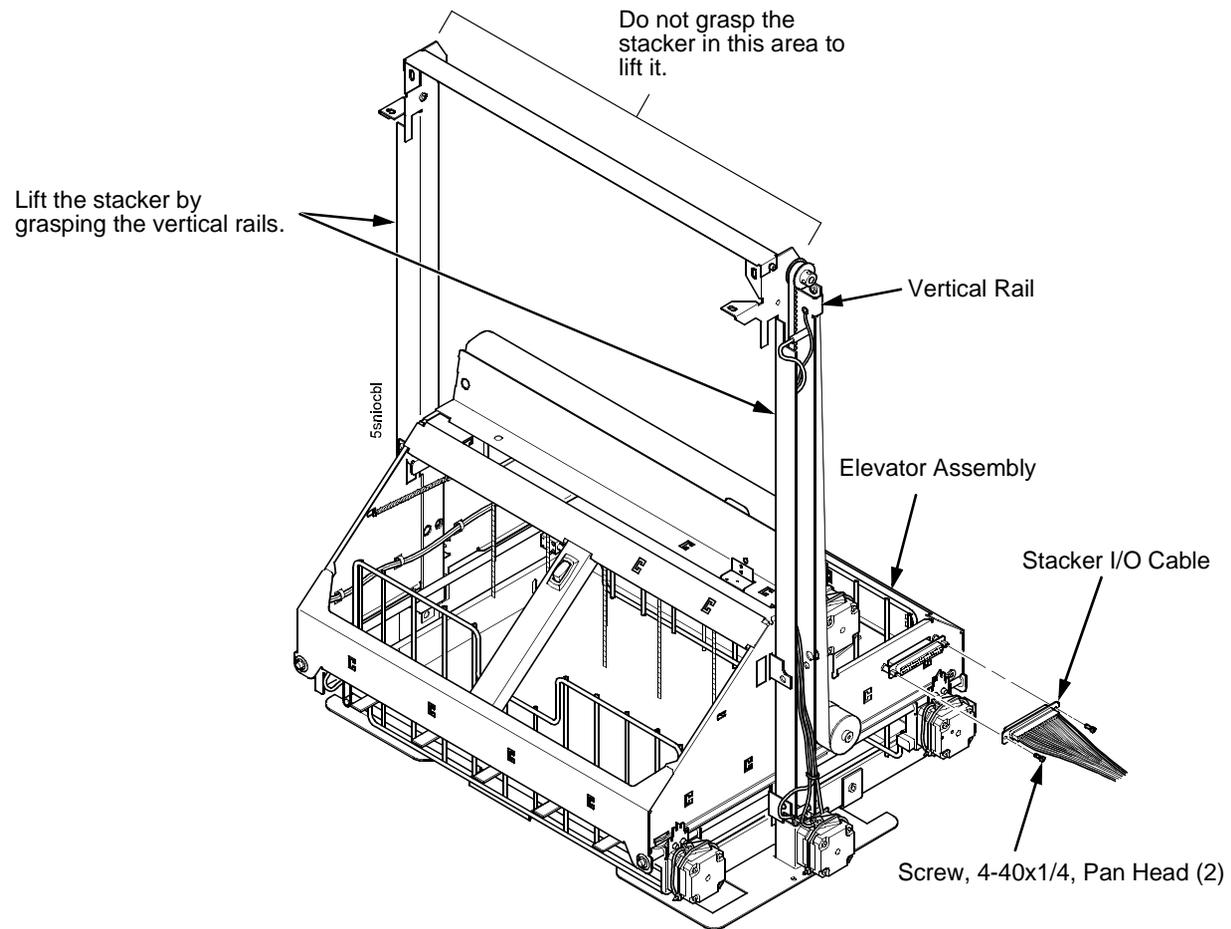

Figure 83. Disconnecting the Stacker I/O Cable from the Stacker Elevator.
14. Remove the two 4-40 x 1/4 inch screws securing the elevator I/O cable to the elevator assembly and disconnect the stacker I/O cable. (Figure 83.)